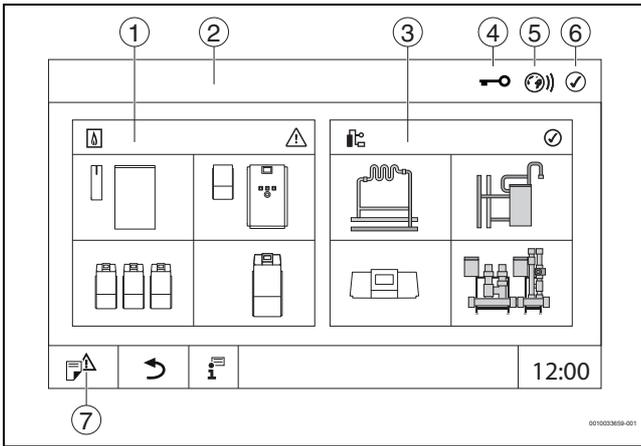

Fig. 3 Panoramic view of system (example)
- Toccare **Impianto** (→ fig. 3, [3], pag. 7).